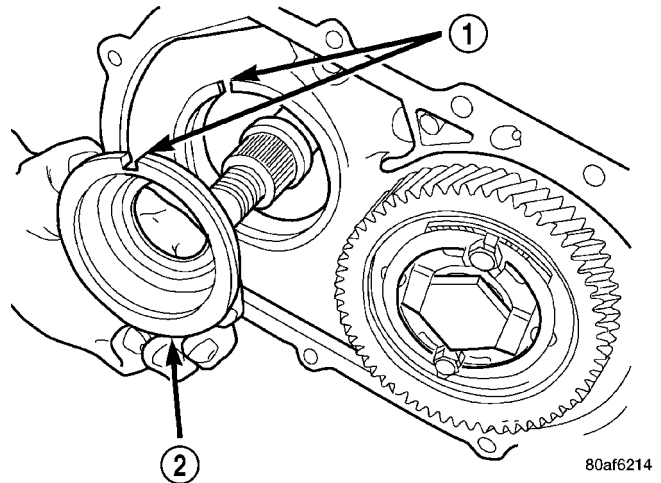

Fig. 116 Remove Bearing Cup Retainer
(29) Install bearing cup retainer to transaxle (Fig. 116).